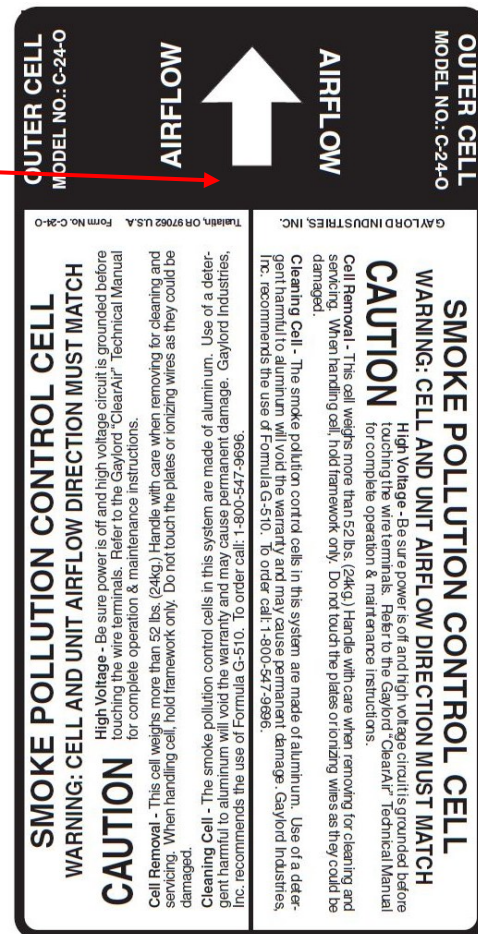

Figure 4-7-2
13. After Cell has been removed, replace with a clean Cell taken from the soak tank. **Caution** - Be sure to replace the Cells with the airflow arrow pointing up as marked on the Cell Nameplate (Refer to Figure 4-7-2).